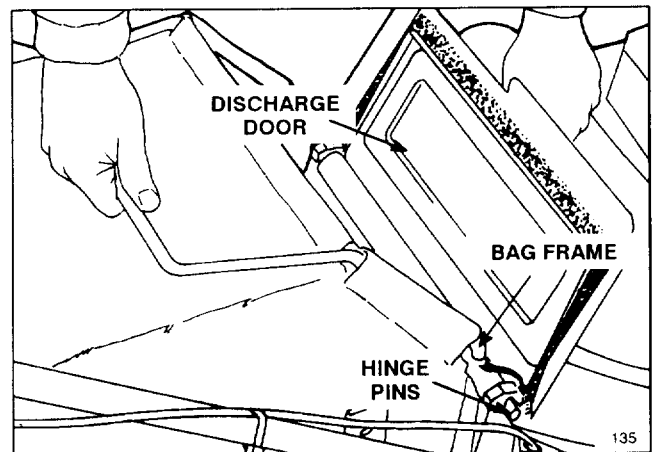
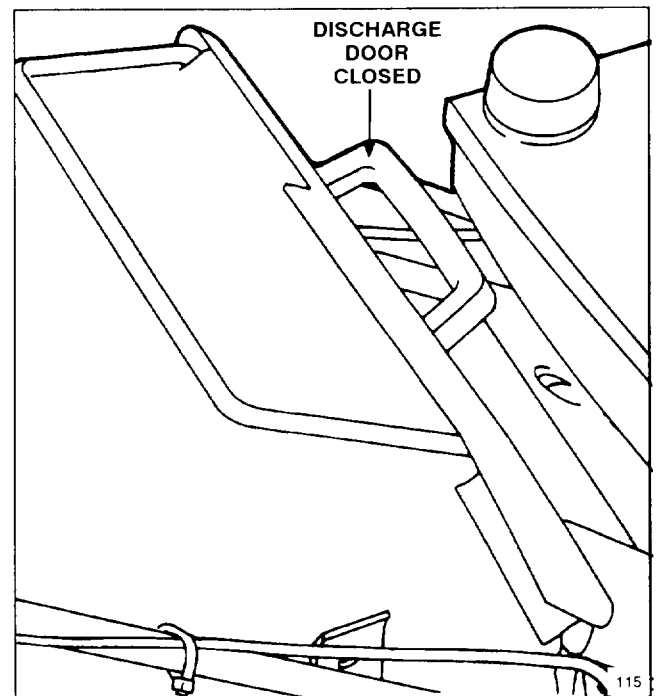

Figure 2
Figure 3
5. To install grass bag, raise discharge door and hook bag frame onto hinge pins (Fig. 2). Allow bag to rest on mower housing over discharge opening. Close door and make sure it seals around top of bag opening (Fig. 3).
4. **MULCHING**—In summer when grass grows slower and is drier, TORO recommends using the Toro Mulching Plug Kit (Model No. 59181) for best mulching results (Fig. 35). You can also mulch by removing the grass bag and closing the discharge door (Fig. 3).